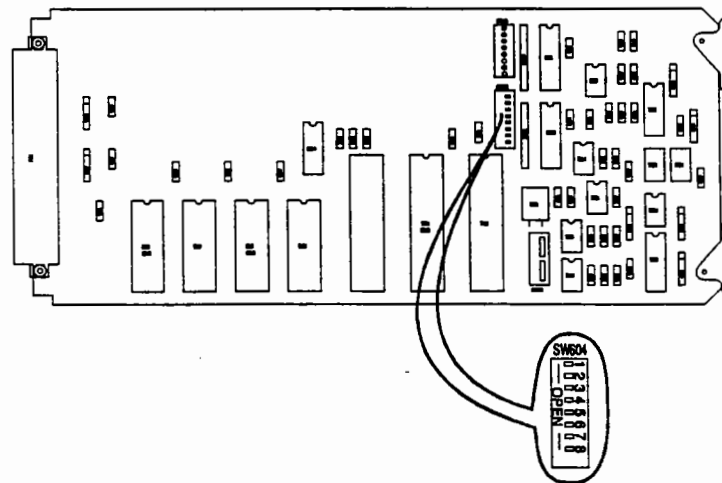

Figure C-6. Expansion Interface PCB (ARINC-429 Adjustments)
2. Position the DIP switches shown in figure C-6 to the appropriate positions to select the ARINC-429 receiver operating speed. Refer to the table provided in figure C-7 when setting the DIP switches.